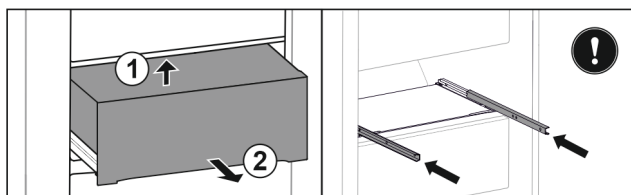

Fig. 29 *
- ▶ Nadvihnite ju zospodu dozadu Fig. 29 (1)*
- ▶ Odoberte ju dopredu Fig. 29 (2)*